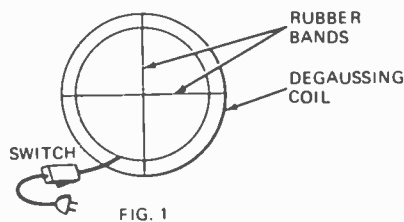

FIG. 1
1. Stretch rubber bands on degaussing coil (Fig. 1) to form a cross-hair arrangement.